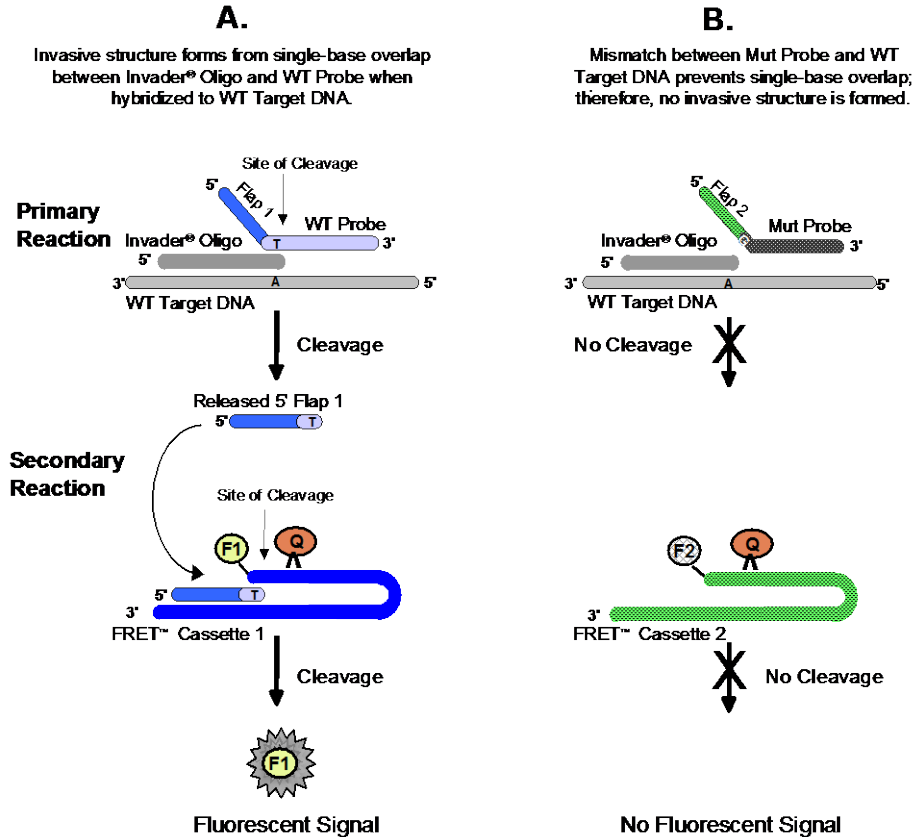

Figure 1.
The Invader DNA Assays use Cleavase enzymes to recognize and cleave specific structures formed by the addition of two oligonucleotides to a nucleic acid target (Figure 1).
In the Invader DNA Assay, two oligonucleotides (a discriminatory Primary Probe and an Invader Oligo) hybridize in tandem to the target DNA to form an overlapping structure. The 5'-end of the Primary Probe includes a 5'-flap that does not hybridize to the target DNA (Figure 1). The 3'-nucleotide of the bound Invader Oligo overlaps the Primary Probe, but need not hybridize to the target DNA. The Cleavase enzyme recognizes this overlapping structure and cleaves off the unpaired 5'-flap of the Primary Probe, releasing it as a target-specific product. The Primary Probe is designed to have a melting temperature close to the reaction temperature. Thus, under the isothermal assay conditions, Primary Probes, which are provided in excess, cycle on the target DNA. This allows for multiple rounds of Primary Probe cleavage for each target DNA, and amplification of the number of released 5'-flaps.
In the secondary reaction, each released 5'-flap can serve as an Invader Oligo on a fluorescence resonance energy transfer FRET Cassette to create another overlapping structure that is recognized and cleaved by the Cleavase enzyme (Figure 1). When the FRET Cassette is cleaved, the fluorophore (F) and quencher (Q) are separated, generating detectable fluorescence signal. Similar to the initial reaction, the released 5'-flap and the FRET Cassette cycle, resulting in amplified fluorescence signal. The initial and secondary reactions run concurrently in the same well.